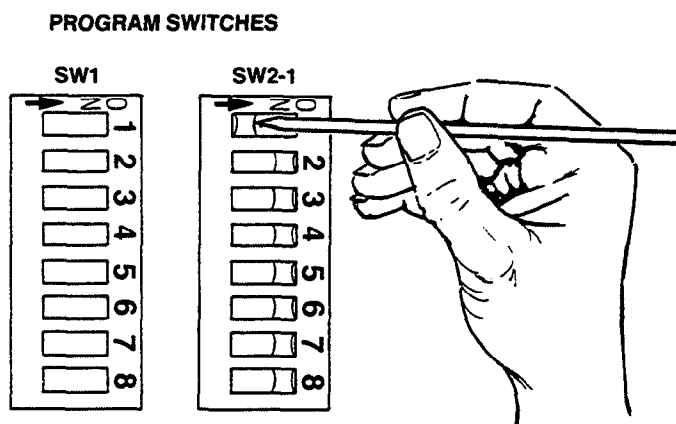

Figure 3 – DIP Switch SW2 Position 1
1. (See Figure 3) Transfer program DIP switch SW2-1 to OFF.